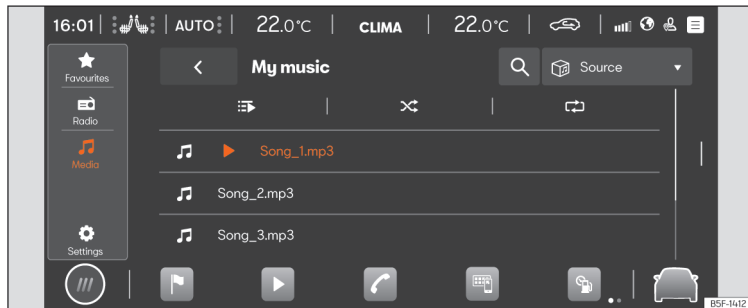

Fig. 176 Schematic diagram: Media view
- Press **HOME** > ► > 🎵 >>> **Fig. 176**.